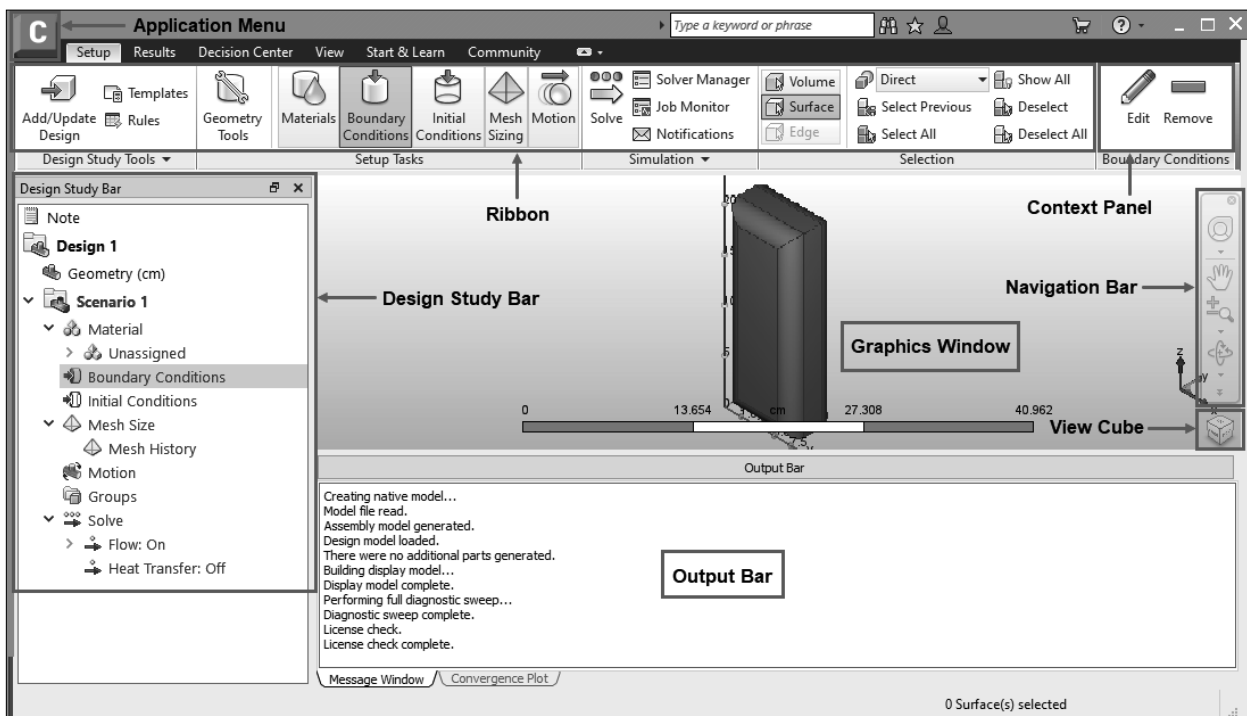

Figure-12. Model interface
- Specify desired name for new design study and click on the **Create** button. The model will be displayed in graphics window along with all options activated; refer to Figure-12.